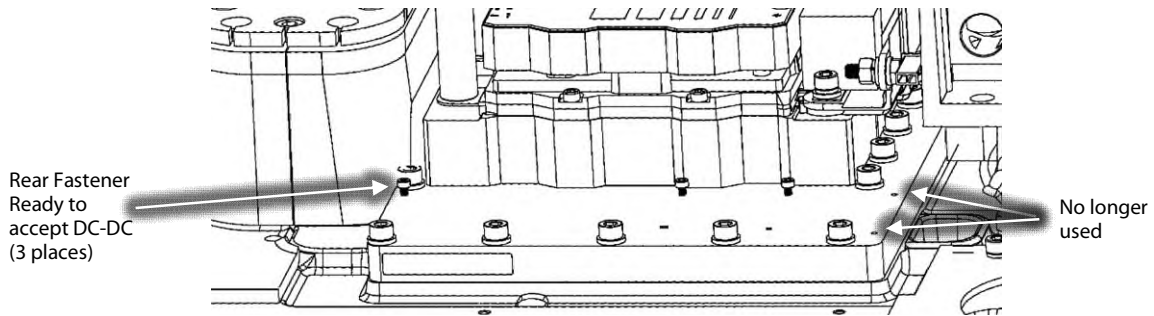

Figure 17 – Rear Fastener Installation
- b. Install the new rear fasteners that secure the DC-DC Converter to the Inverter Heat Sink Plate. Do not tighten these fasteners; leave enough space under the fasteners to allow the DC-DC Converter to slide under the fasteners. Refer to Figure 17 – *Rear Fastener Installation*.